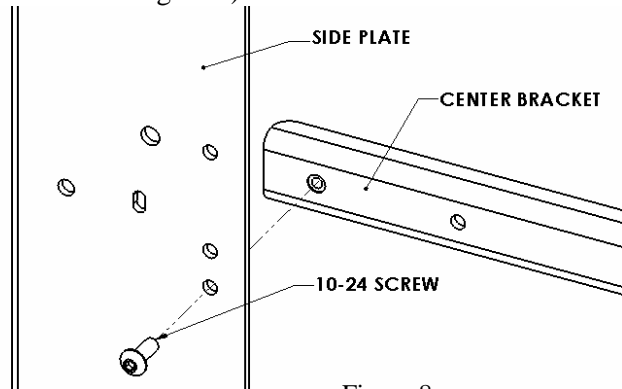
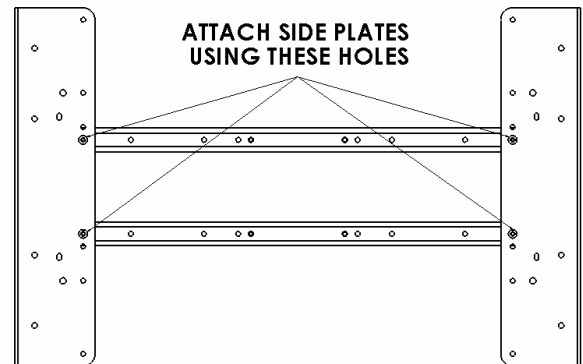

Figure 8
Figure 9
1. Attach center brackets to side brackets using #10-24 screws, hex key provided. (see Figure 8 and Figure 9).